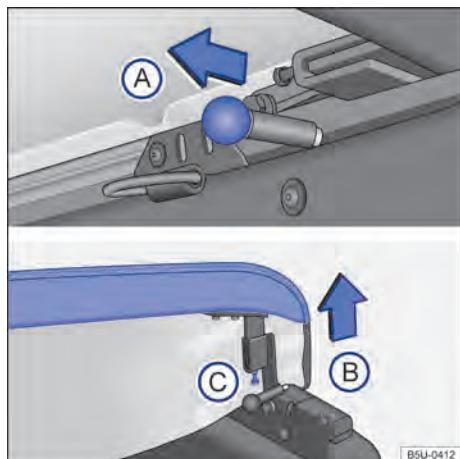

Fig. 48 Bed canvas stretching adjustment locks and bolt.
- Move the locking pin → **Fig. 48 A** in the direction of the arrow, in both sides, simultaneously.